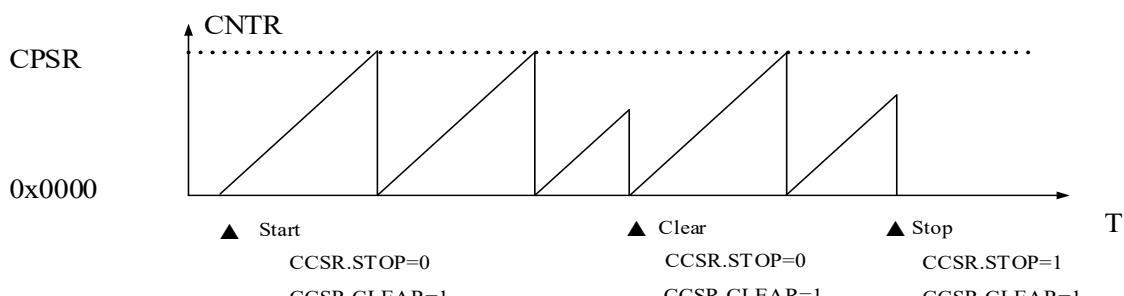

Figure 22-4 Timer4 sawtooth wave mode count action
1. Sawtooth wave count operation and control process are shown as Figure 22-4.